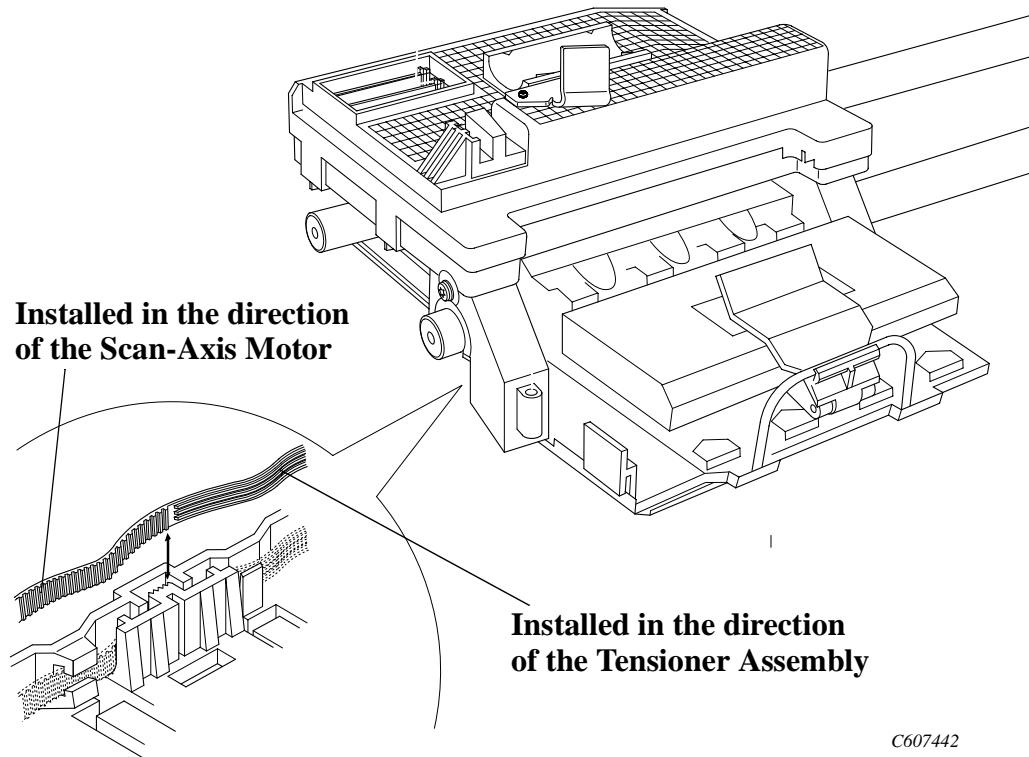

Figure 51: Belt Installation
Refer to Figure 41 to Figure 51.
3. When installing the belt, make sure it is not twisted and is installed in the correct orientation as shown in Figure 51.